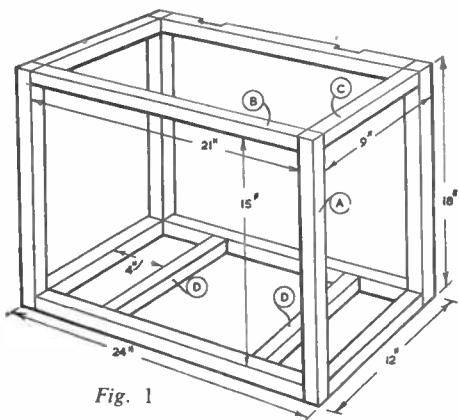
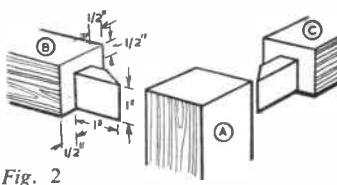
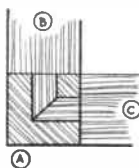

Fig. 1
Fig. 2
Fig. 3
The framework is made from $1\frac{1}{2}$ in. square material to the measurements shown in Fig. 1. Make allowance, when marking up the rails, for the tenons as shown in Fig. 2. They are mortised into the upright pieces (A) and are mitred to fit. Measurements of the tenons are shown in detail and the section in Fig. 3 shows the tenons mitred at the centre.